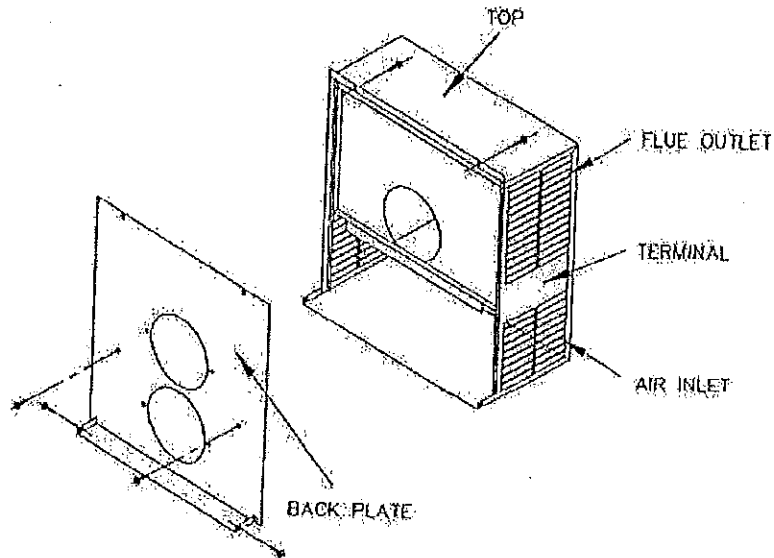

Fig. 4 – Fitting the Back Plate to the Terminal
6. Fit the back plate to the terminal and secure with 4 of the 6 screws supplied (see fig 4)